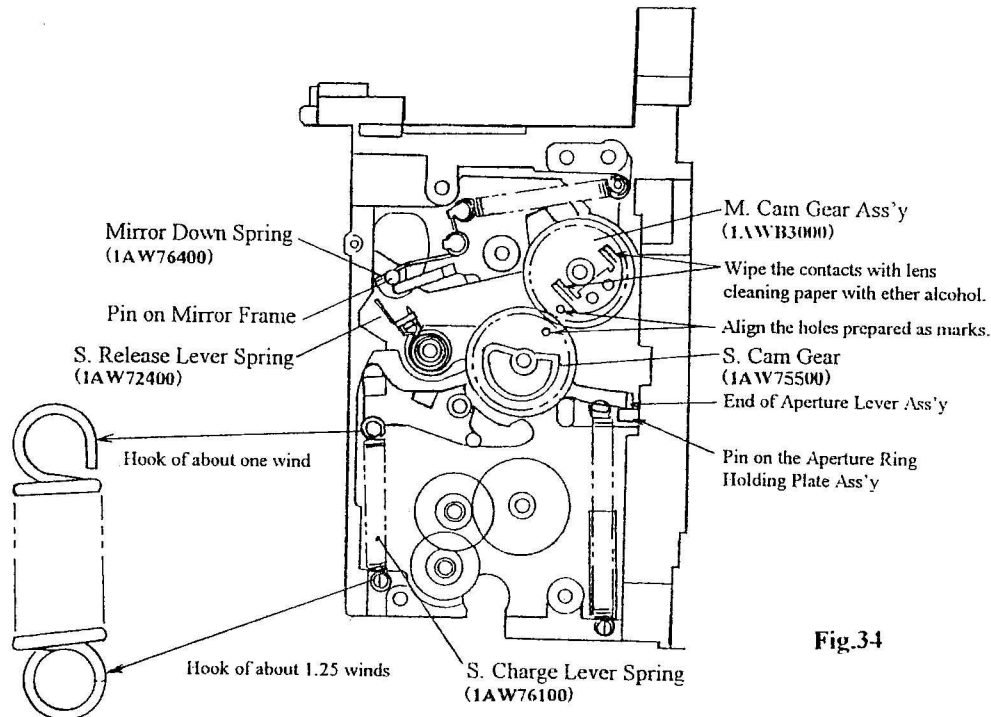

Fig.34
- f) Set the S. Release Lever Spring (1AW72400) in a way as shown in Fig. 34.
- j) Set the S. Charge Lever Spring (1AW76100) in an orientation as shown in Fig. 34.